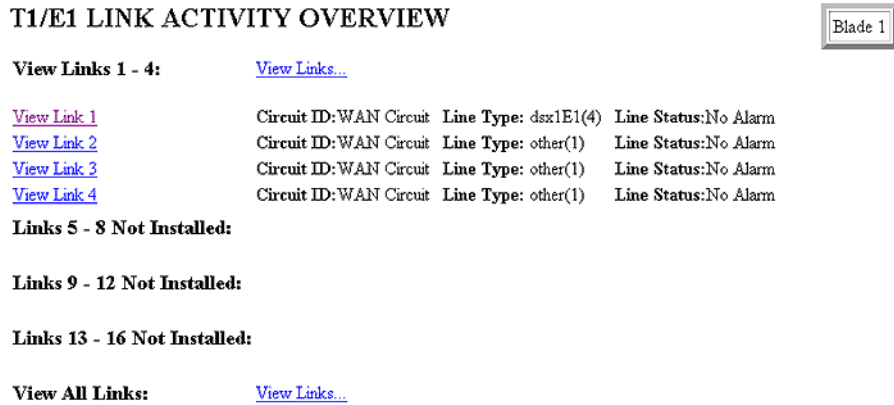

Figure 44. T1/E1 Link Activity Overview page
1. On the *3096RC Configuration Menu*, click the *T1/E1 Link* hyperlink to open the T1/E1 LINK ACTIVITY OVERVIEW page (see figure 44).